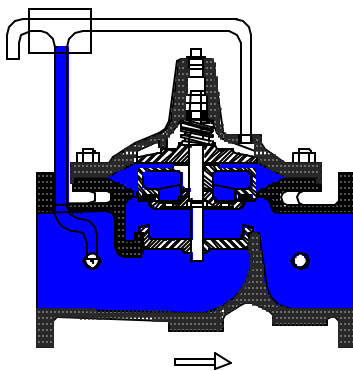

Figure 1
**Figure 1:** 100 psi enters the valve below the seat, lifting the Disc and Diaphragm Assembly with approximately 1300 lbs of force (area x 100 psi). With no pressure in the cover chamber (above the diaphragm), the valve moves to a wide open position.
This assembly is the only moving part inside the valve, and can be removed while the body remains in line. When the Disc & Diaphragm Assembly is installed in the valve, the diaphragm forms a seal between the valve body and cover, creating a *Cover Chamber*. Understanding what happens inside the cover chamber is of paramount importance to understanding what action the valve will take. (Refer to Figures 1, 2, and 3).